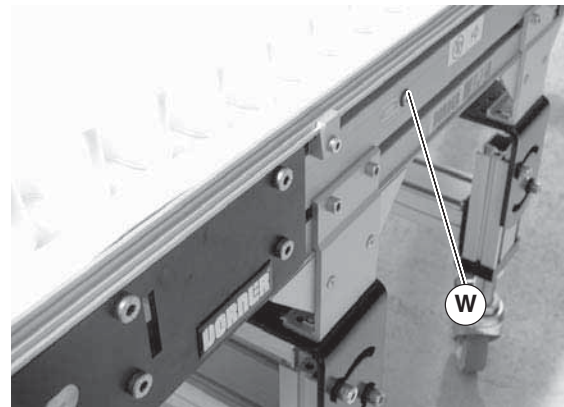

Figure 23
- If equipped, remove screws (Figure 23, item AK) and remove lower knuckle return roller assembly (AL) on both sides of conveyor, note the position of the meshing teeth.